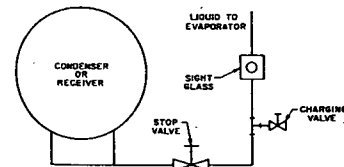

Fig. 44 Sight Glass and Charging Valve Locations
1. Charging into the liquid line between the receiver shut-off valve and the expansion valve as shown in Fig. 44. The advantages of this method are: (a) dumping liquid into the compressor is prevented, (b) the system can be charged rapidly since the refrigerant is charged as a liquid and does not have to be evaporated from the drum, and (c) the charging connection is convenient to the liquid test cock or liquid line sight glass. To prevent the impurities and moisture in the drum being drawn into the system, the practice of charging through a filter and dehydrator should be adopted.